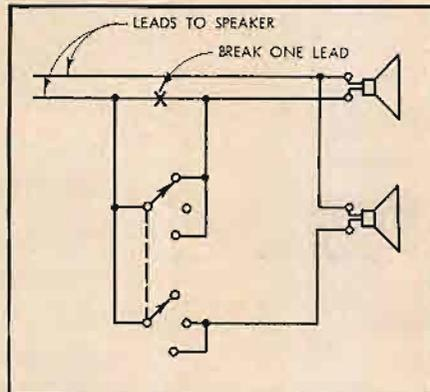

Fig. 1. Hookup for extension speaker
A. You can readily do this without any more technological skill than is needed to handle a soldering iron. Find the two leads going to the speaker in the tape recorder, break one of them, and then make the switching arrangement shown in Fig. 1. Use a make-before-break switch so there will always be a load on the output transformer.